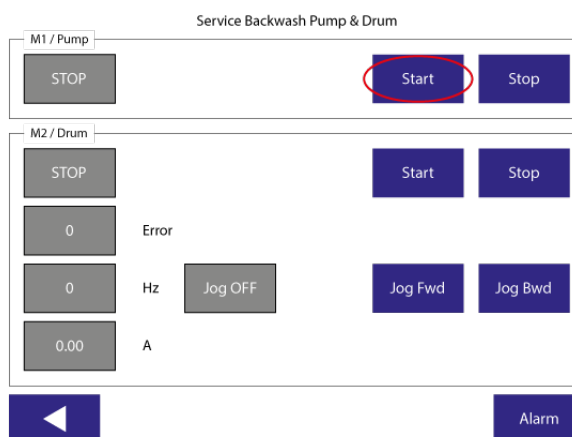

Figure 6.12 Service Backwash Pump & Drum window.
5. Select “Start” in the “Drum” window, see Figure 6.12.
6. Select “Start” in the “Pump” window, see Figure 6.12.
10. Select “Cover & Spray”, see Figure 6.12.
11. Extend the wash ramp as described in section 6.2, item 2.